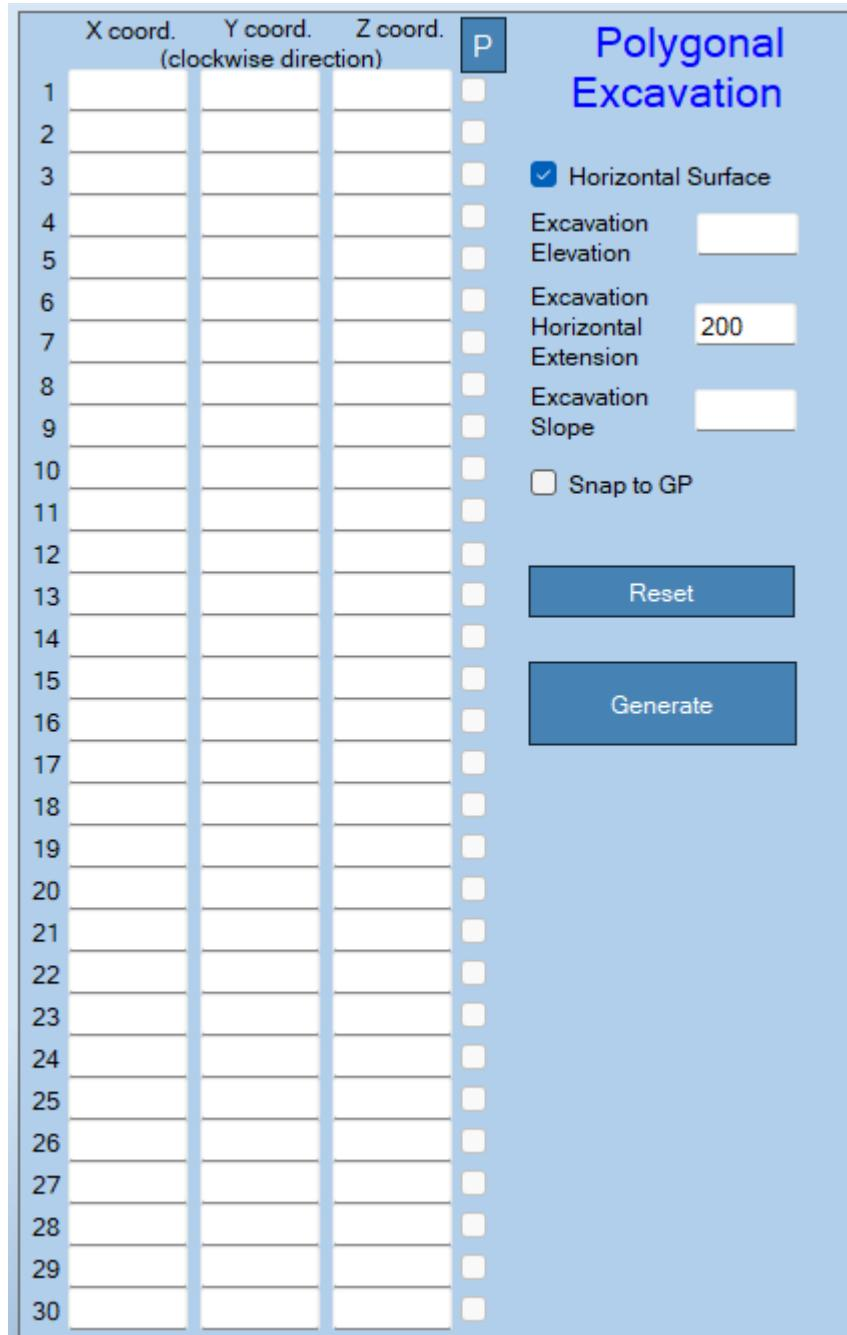

Figure 31: 3D Surfaces Menu – Polygonal Excavation.
- **3D Surfaces Menu, Polygonal Excavation:** This option (shown in Figure 31) defines a Polygonal Excavation landform over any given surface.